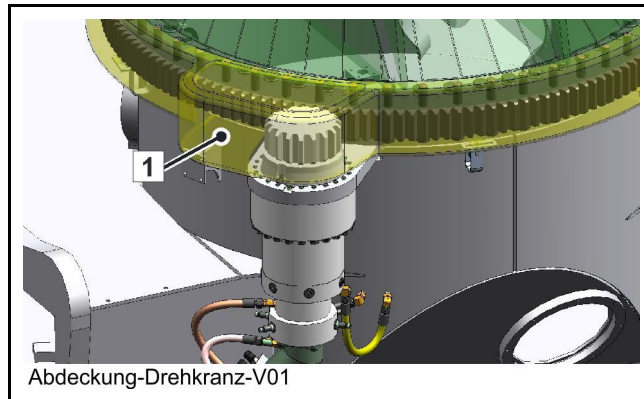

Fig. 318 Slewing ring support cover
The tothing of the rotary drive can be accessed after removing the covering cap (1) via the toothed wheel of the slewing gear (**Fig. 318**).